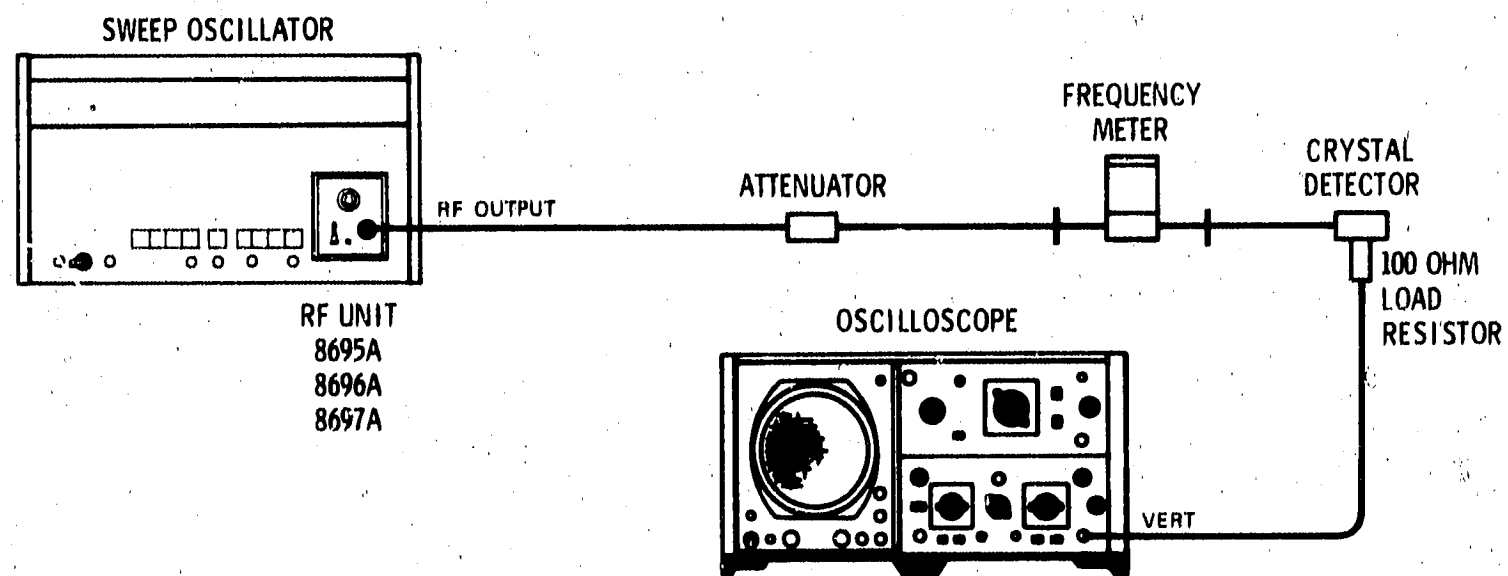

Figure 2-2. Adjustment Setup Number 2
- f. Connect equipment as shown in Figure 2-2.
- c. Connect equipment as shown in Figure 2-2.